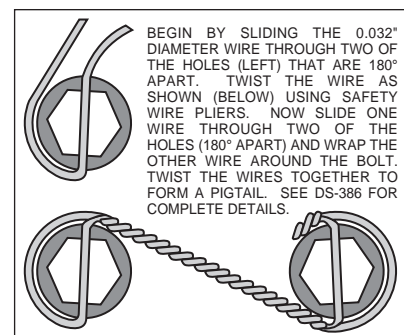

Figure 3. Safety Wire Diagram
- With the larger I.D. side of the rotor (3) facing away from the hat (4), bolt rotor (3) to hat (4) through the backside of the rotor using washers (5) and bolts (6). Using an alternating sequence, apply red *Loctite*® 271 to the threads and torque bolts to 155 in-lb. For an added measure of security, the bolts may be safety wired using standard 0.032 inch diameter stainless steel safety wire as shown in Figure 3. Please refer to Wilwood's data sheet DS-386 (available at www.wilwood.com/Pdf/DataSheets/ds386.pdf) for complete safety wire installation instructions. Slide the rotor/hat assembly onto the spindle. Install a couple of lug nuts (hand tighten) to keep the rotor/hat assembly in place while continuing with the installation.